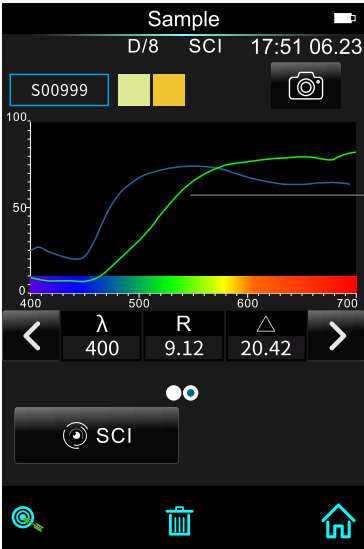
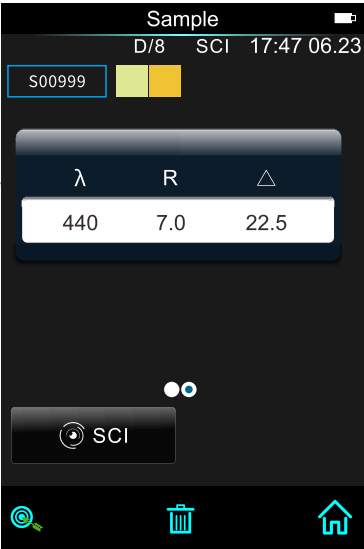

Figure 15 Sample Reflectance 1
Figure 16 Sample Reflectance 2
In the "Standard measurement" interface, click "Sample measurement" to enter Sample Measurement interface. It is the same steps with standard measurement. After measurement, it will display as shown in figure 14, figure 15, and figure 16, detail explanation as follow:
- 7)Sample reflectivity: display both standard and sample reflectivity curve at the same time. Blue represents standard, and green represents sample, as shown in Figure 15. Some models of the instrument do not have this function and only display part of the reflectivity, as shown in Figure 16.
- 8)Reflectivity difference : The difference between sample and standard under the current reflectivity. As shown in figure 15, click , The wavelength, reflectivity, and reflectivity difference of the sample and standard are switched at an interval of 10nm. Partial models of instruments do not have this function, and only display part of the reflectivity and light wavelength, as shown in Figure 16.